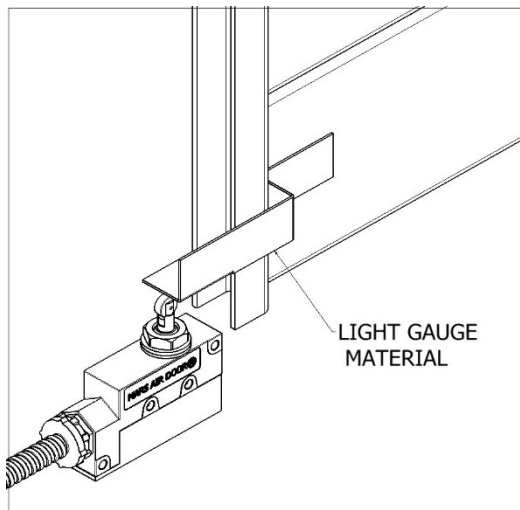

FIG. 2
2. Use light gauge materials when field fabricating brackets to activate and deactivate the door limit switch(s). (FIG. 2) Figure 2 also shows the typical installation of the combination plunger/roller type NEMA 1 door limit switch, for all non-hinged style doors.